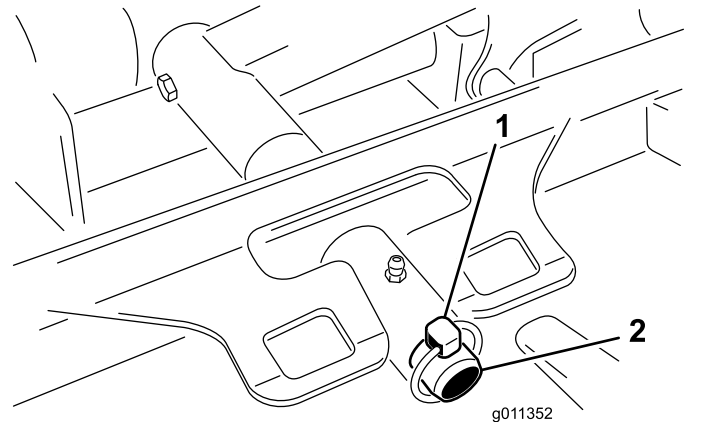

Figure 71
3. Remove the lynch pin (for Groundsmaster 4500 machines) or retaining nut (for Groundsmaster 4700 machines) securing the deck-carrier frame to the lift-arm pivot pin (Figure 71).
2. Slide the deck carrier frame onto the lift-arm-pivot pin (Figure 71). Secure the deck to the pin with the lynch pin (for Groundsmaster 4500 machines) or retaining nut (for Groundsmaster 4700 machines).